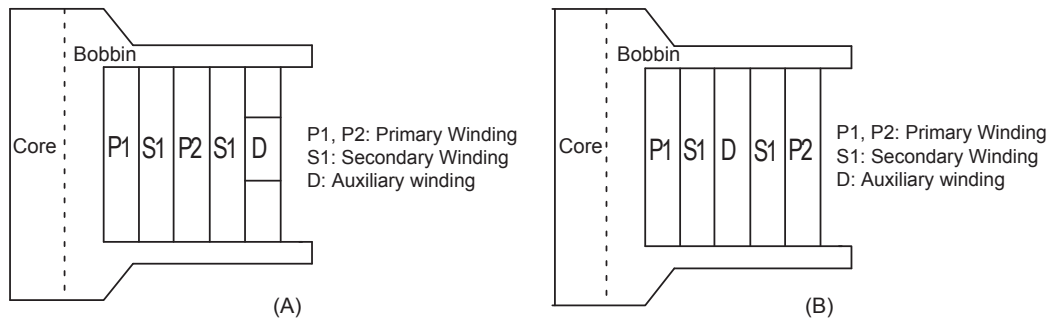

Figure 7. Transformer winding structures
Figure 7 shows two transformer design examples considered the winding location of the auxiliary winding D to minimize impact of  $V_{CC}$  surge voltage. Triple insulation wires are used for either the primary or secondary winding, and thus no margin-tape is used:
- Separate the auxiliary winding D from the primary windings P1 and P2 (figure 7 (A)); P1 and P2 are two separated primary windings.
- Place the auxiliary winding D within the secondary winding S1 in order to improve the coupling of those windings (figure 7 (B)); S1 is the secondary output winding.